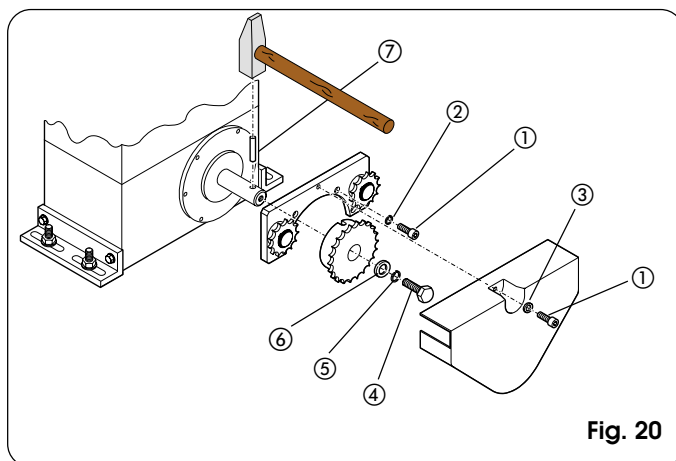
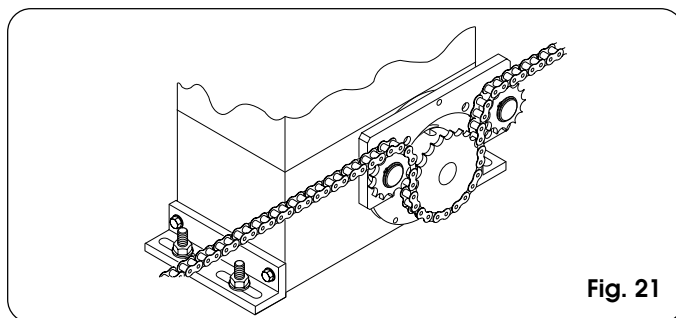

Fig. 20
Fig. 21
**4.5.2. MOD. 844 ER RF (Figs. 20 - 21)**
- 1) Insert the spring pin ⑦ on the shaft, using a hammer.
- 2) Fit the idle transmissions bracket on the gearmotor flange, using the four screws ① (M5 x 12) and the appropriate washers ②, in the kit as shown in Fig. 20.
- 3) Fit the chain pinion on the shaft, making the pinion seats coincide with the spring pin and tighten the screw ④ and the appropriate washers ⑤ and ⑥.
- 4) Pass the chain as shown in Fig. 21 and install the housing with screw ① and washer ③ as in Fig. 20.